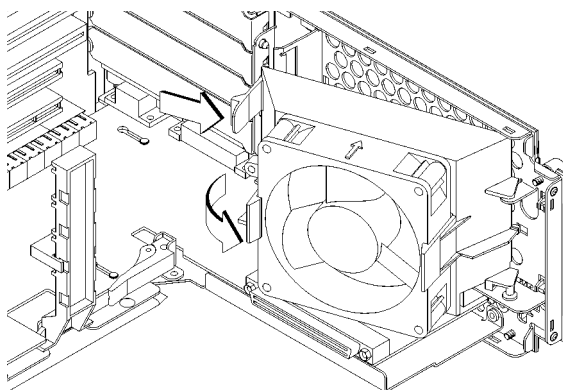

Figure 50
- 2 Press the fan release clip and rotate the fan, as shown in Figure 50.